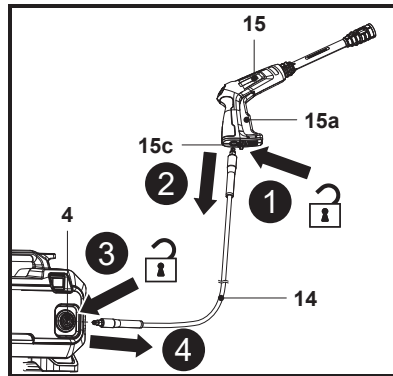

Fig. 5
4. To disconnect the pressure hose (14) from the spray gun (15), push the quick release lever (15c) towards the pressure hose (14) and hold it in place, then pull out the pressure hose (14) (Fig. 5, steps 1, 2).
5. To disconnect the pressure hose (14) from the machine, push the outer ring of the hose connector (4) inward and hold it in place, then pull out the pressure hose (14) (Fig. 5, steps 3, 4).